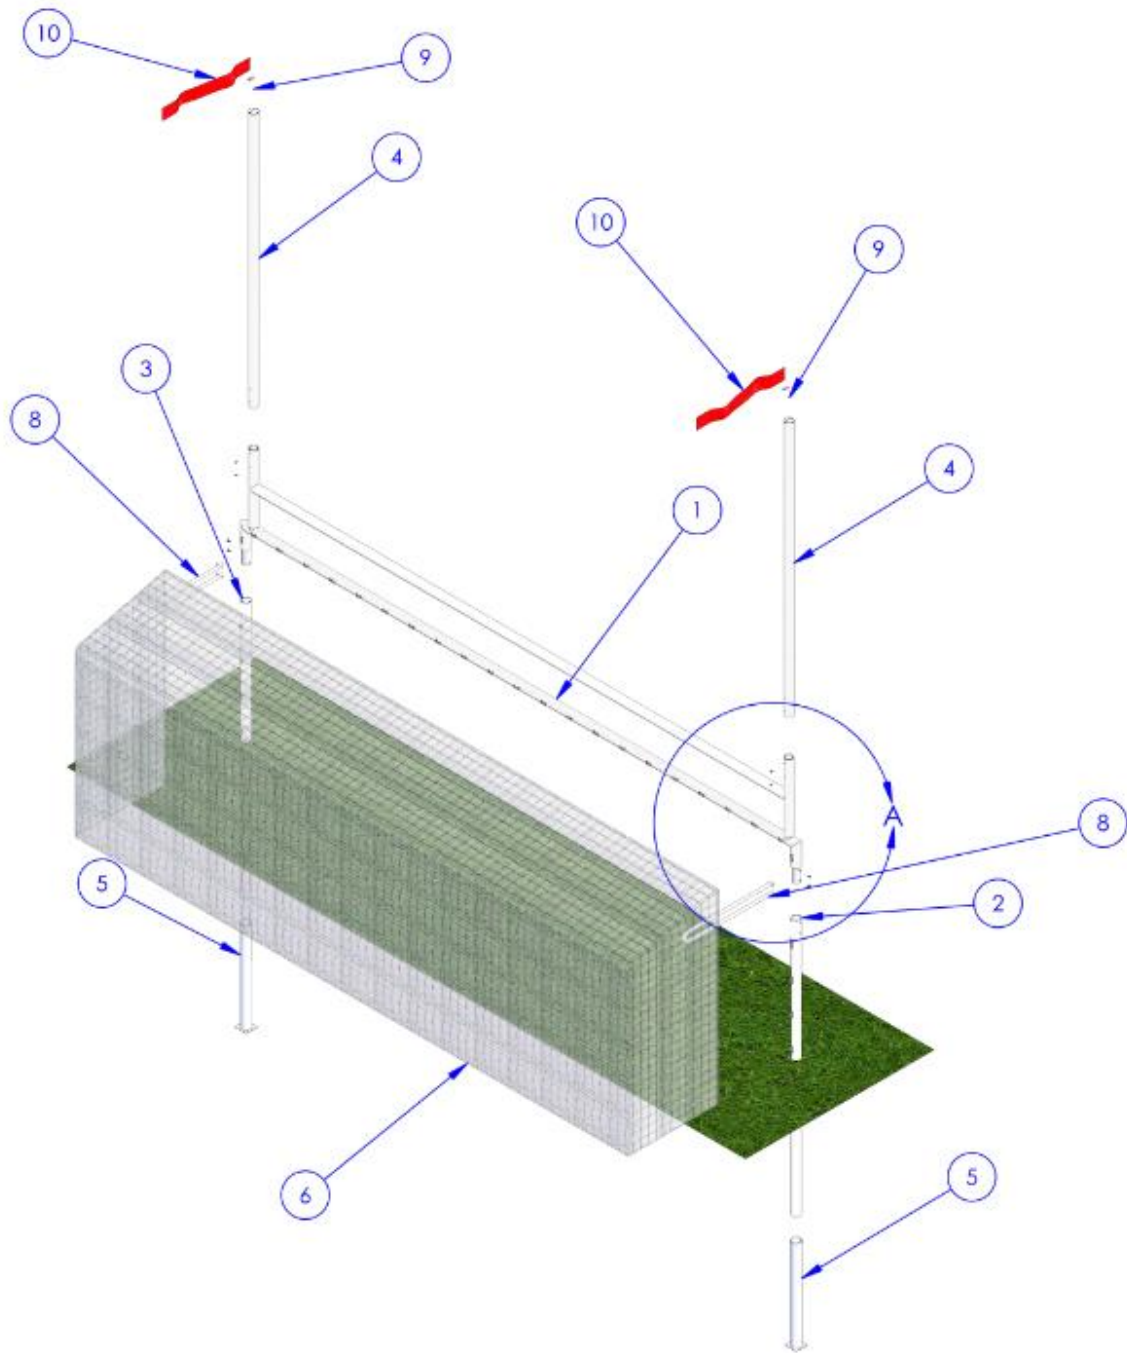

**Figure 1-Ground Sleeve Location**
1. Locate Combination “H” goal ground sleeve positions. *(Using measurements from Figure 1)*